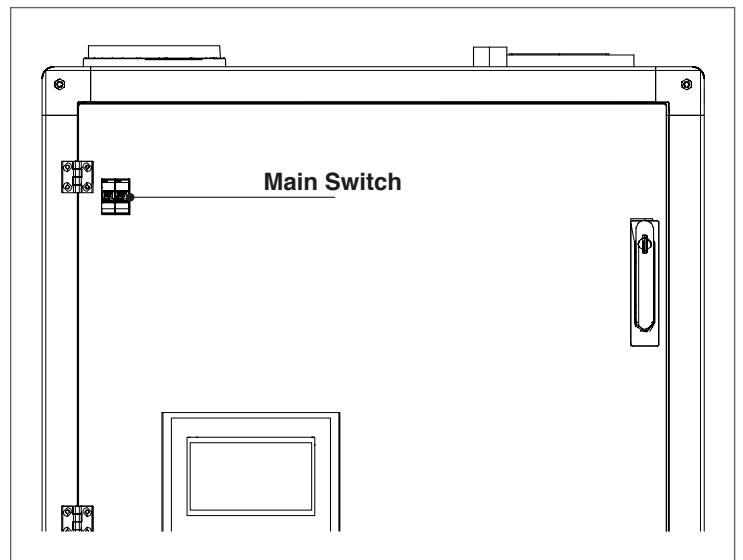

Fig. 20 Main switch
**⚠ WARNING:** The main switch shown in Fig. 20 does not remove power from the left door terminal blocks.